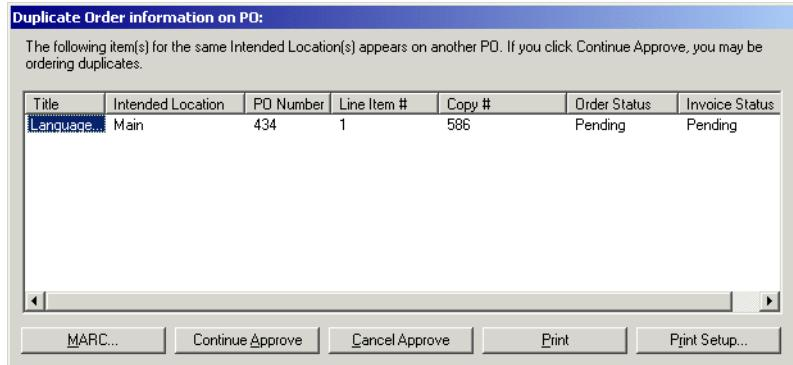

Figure 6-58. Duplicate Order Information on PO dialog box
4. Click the **Check for Duplicates** check box if you want the system to check for duplicate titles for the same location when a purchase order is approved. The system checks duplicate line items based on the Order Location and the Bibliographic ID. If any orders match these two criteria, the **Duplicate Order Information on PO** dialog box opens (see Figure 6-58).
The **Duplicate Order Information on PO** dialog box (Figure 6-58) opens when you approve a purchase order that contains titles that are on more than one purchase order for the same location, or duplicate purchase order numbers. (Providing that you checked the **Check for Duplicates** check box of the Approve Options section when approving a PO.)